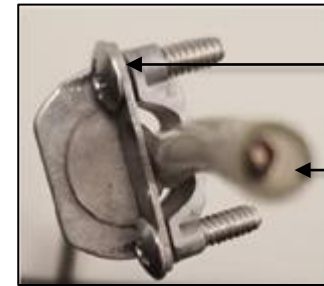

FIG. 27 – STRAIN RELIEF WITH CORD INSERTED
4. Insert CORD through the STRAIN RELIEF and tighten two SCREWS on the STRAIN RELIEF above the all-thread where marked. If screws are not properly tightened CORD could slip; through the STRAIN RELIEF, causing the fixture to fall. see detail as shown in FIG.27.